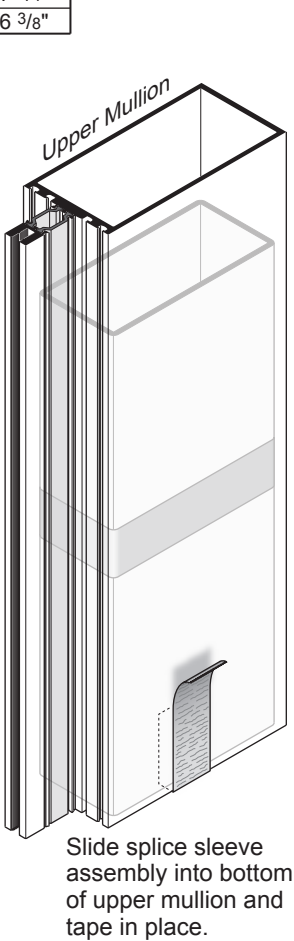

Fig. 32.2
- C. Slide the splice sleeve into the upper vertical mullion. Tape the sleeve into position temporarily until verticals are erected. See **Fig. 32.2**.